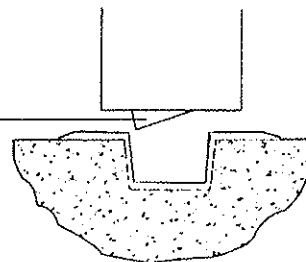

Figure 7-2
- 1. Depress push bar, top latch bolt should be retracted as shown in Figure 7-1, and bottom latch bolt clears floor and bottom strike as shown in Figure 7-2.